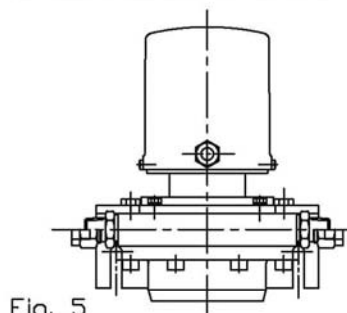

Fig. 5
1. Install suitable pipe brackets at each side of flowmeter (Figure 5).
2. Install the flowmeter in a horizontal pipe section, as shown in figures 5, 6 or 7, such that the counter or pulse transmitter box is on top.